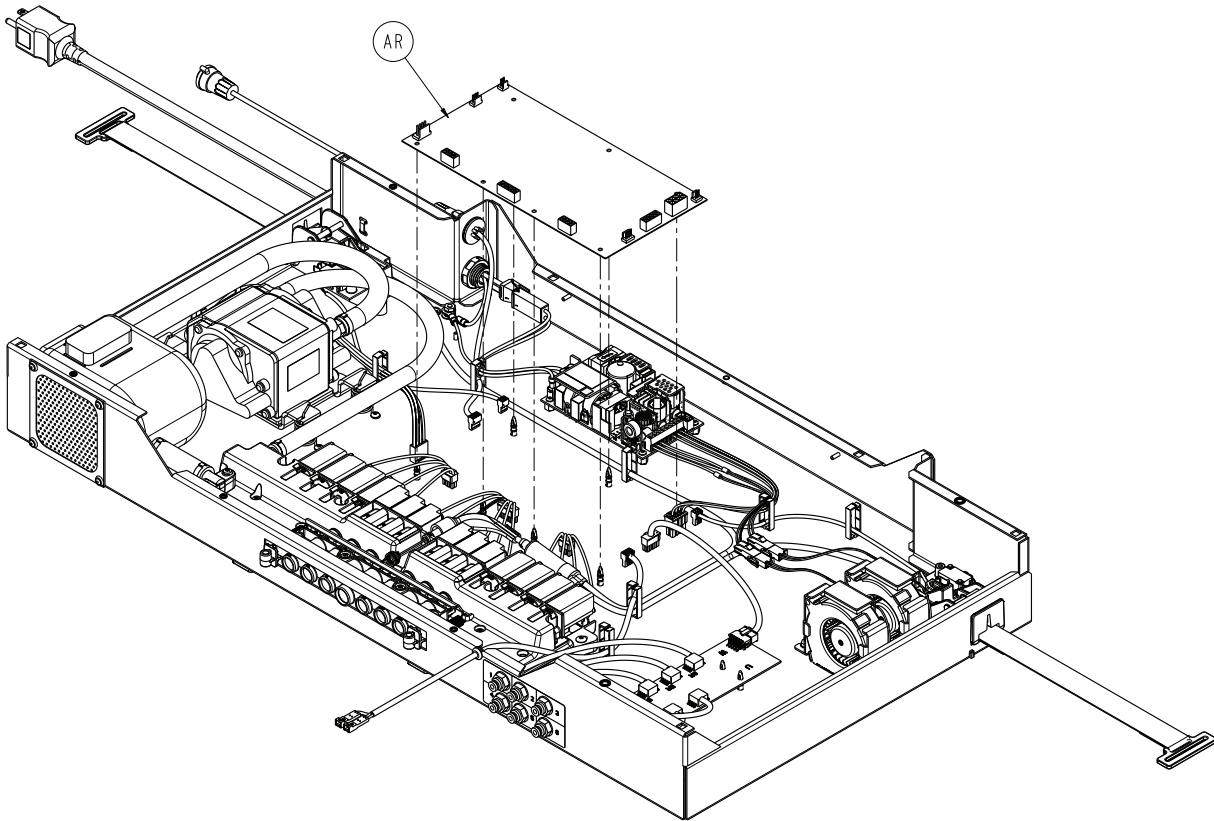

Figure 14 – Main board
2. Remove all wiring connections from the main board (AR) (Figure 14).